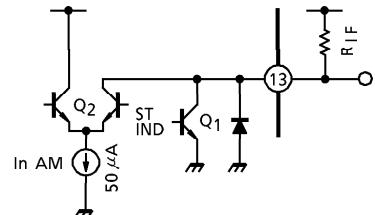

Fig.5 Internal circuit of pin⑬
- The terminal of pin⑬ is built in stereo indicator function and modulated AM IF signal output. In AM mode, R_{IF} (3k Ω or less) should be connected between V_{CC} and pin⑬, or pin⑬ should connected to V_{CC} directly. (Fig.5) In case that $R_{IF} > 3k\Omega$ or pin⑬ is opened, this IC doesn't operate normally in AM mode. Because transistor Q_2 is saturated.